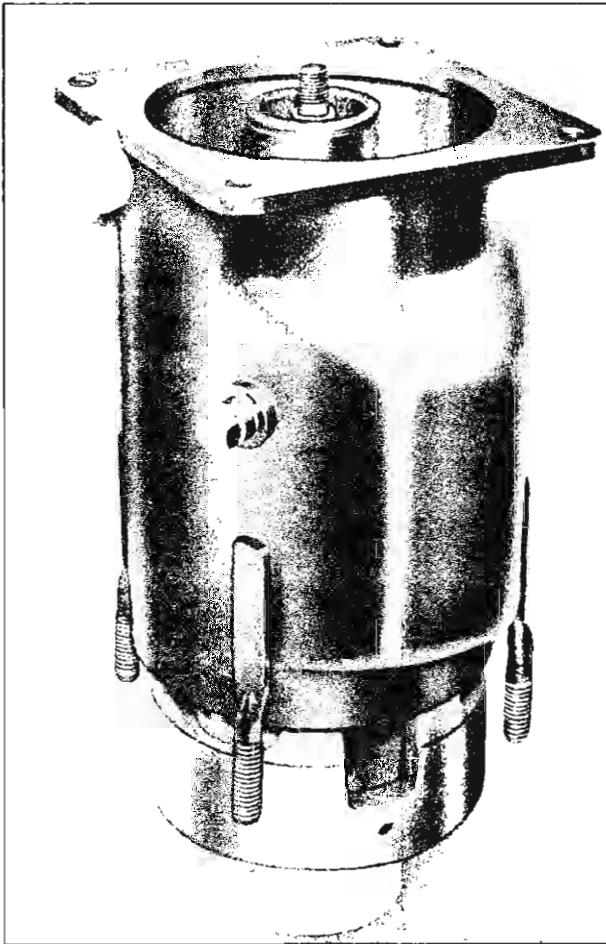

Fig. 40—Installing Shell Over Internal Mechanism
10. Locate the oil intake tube hole in the rear discharge plate. Line up the oil sump with this hole location and slide the shell down over the mechanism while supporting the mechanism on J-9521 (fig. 40).